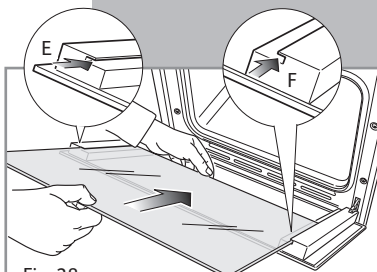

Fig. 38
- Insert the pane in the left **E** and right **F** slide guides (fig. 38), and gently slide it to the retainers **H** (fig. 39).